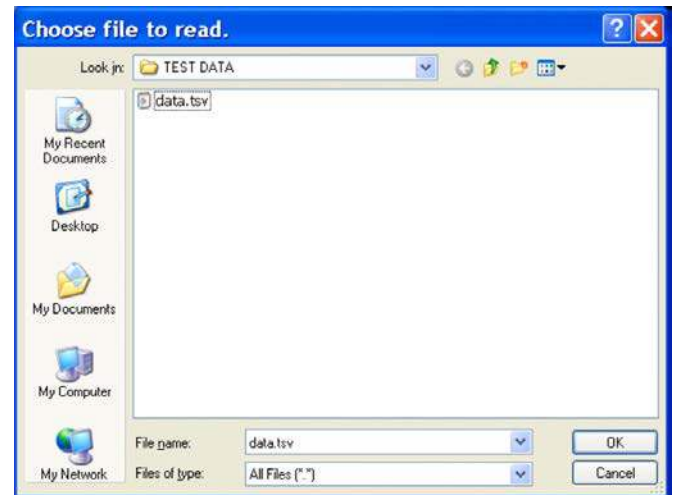

Figure 16. Load File Dialog Box: Loading Previously Captured Data or Example Files in .tsv Format
- **Load data:** load previously captured data or example files in .tsv (tab separated values) format for analysis (see Figure 16). (The default location for the example files is **C:\Program Files\Analog Devices\AD7292\examples**.)